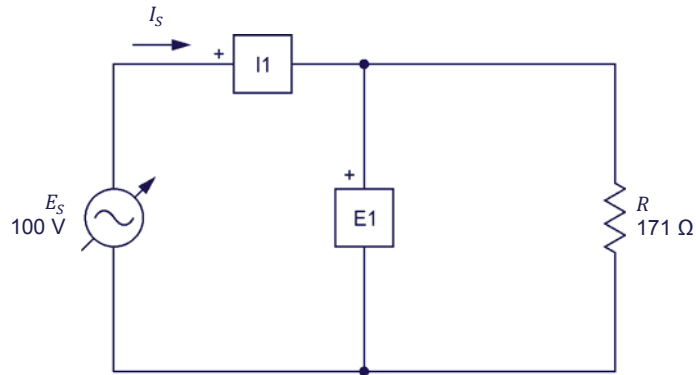

Figure 1-20. AC circuit containing a resistor, as well as a voltmeter and an ammeter for voltage, current, and power measurements.
6. Set up the circuit shown in Figure 1-20.